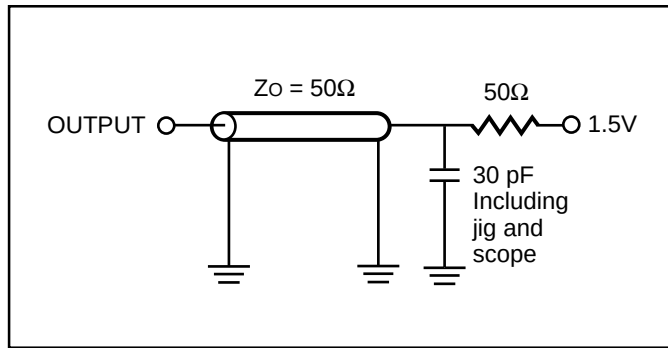

Figure 1.
| Output Load                                 | See Figures 1 and 2 |
1. Test conditions assume signal transition times of 3 ns or less, timing reference levels of 1.5V, input pulse levels of 0V to 3.0V and output loading specified in Figure 1.